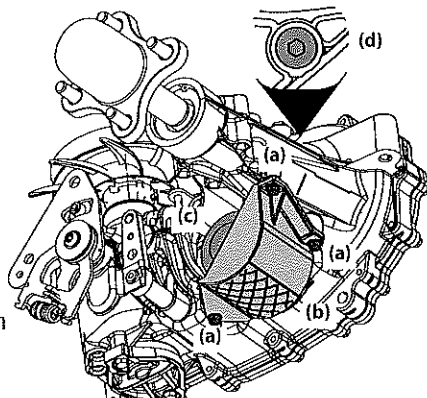

Figure 36
2. Remove the three filter guard screws (a) and the filter guard (b). Clean any loose debris from around the filter (c). See Figure 36.
8. Remove the top port plug (d) from the transaxles to allow the transaxles to vent during filling. See Figure 36.